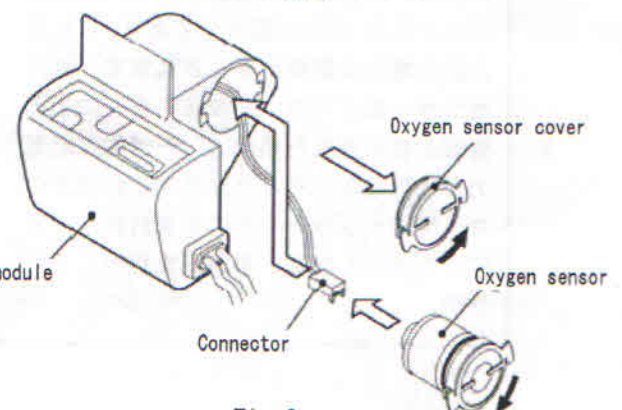

Fig. 3
2. Installing the oxygen sensor to the module <Fig.3>